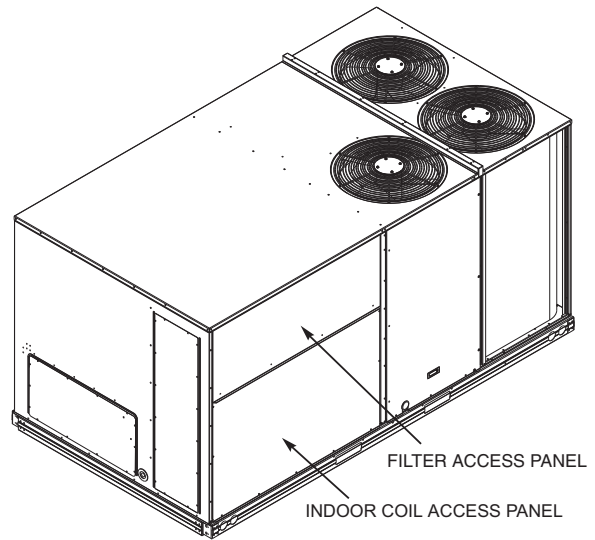

Fig. 14 — Typical Access Panel Locations (Size 16 Shown)
2. To gain access to the hood, remove the filter access panel. (See Fig. 14).
2. To gain access to the hood, remove the filter access panel (see Fig. 14).
2. To gain access to the hood, remove the filter access panel. See Fig. 14.